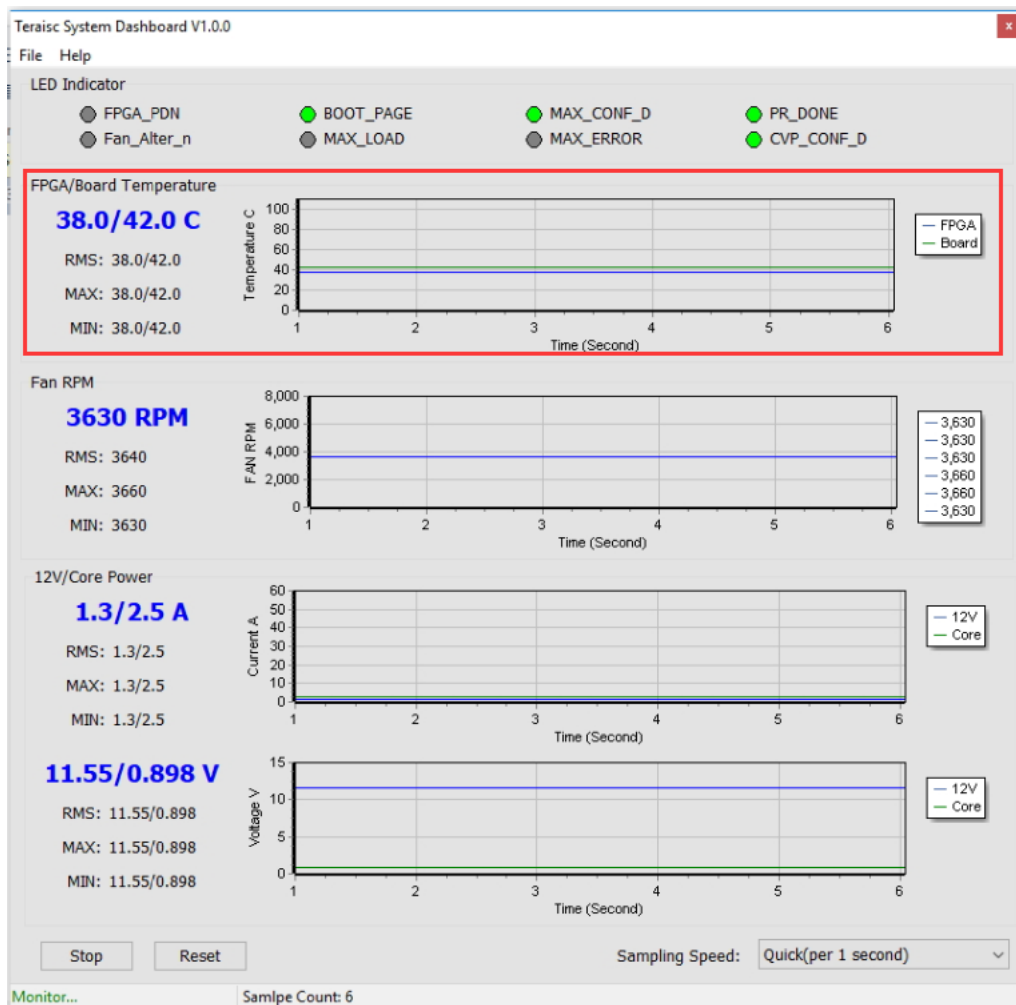

Figure 8-19 Temperature section
- **FPGA/Board Temperature:** The Dashboard GUI will real-time show the fan speed, TR10a-LPQ board ambient and FPGA temperature. Users can know the board temperature in time. The information will be refreshed per 0.5 second, and displays through diagram and number, as shown in **Figure 8-19**.